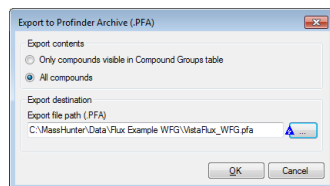

Figure 59 Export to Profinder Archive dialog box
- Click **OK** to save your Profinder Archive file (Figure 59).